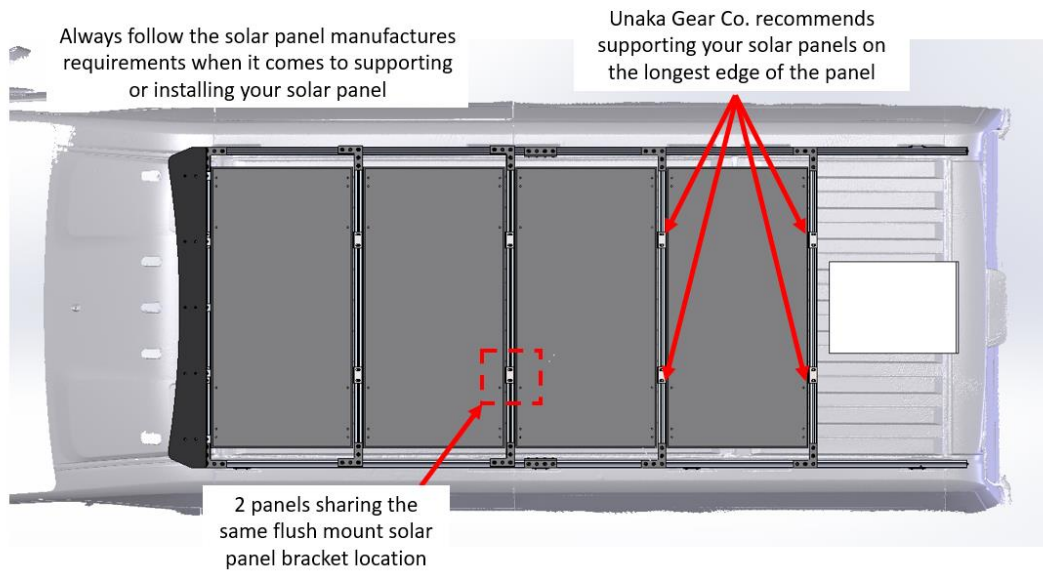
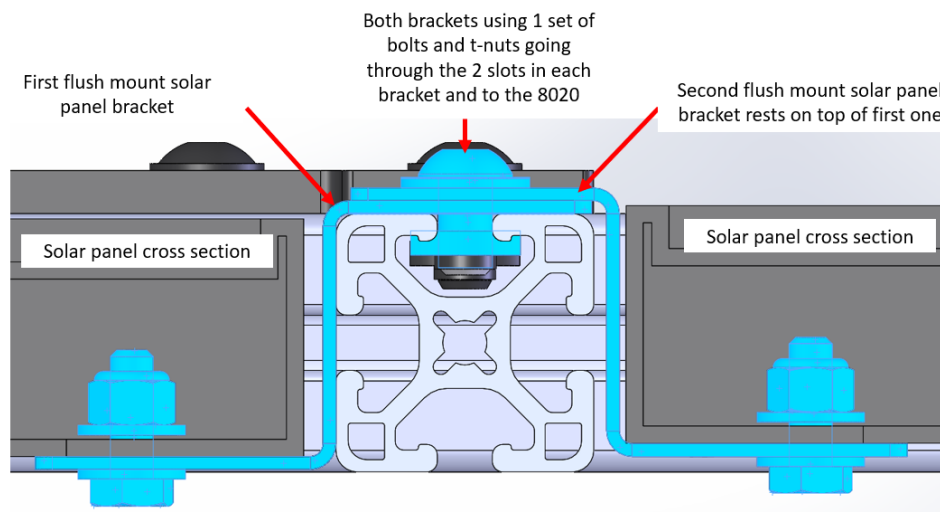

Figure 4: Flush mount brackets used for multiple solar panel installation.
Figure 5: Cut away view of overlapping flush mount solar panel brackets
- Each flush mount solar panel bracket requires 1 t-nuts to be installed in the 8020 mounting locations for each solar panel bracket. If 2 flush mount brackets are overlapping as described in Figure 4 and Figure 5 then those brackets in that location will share the same 2 t-nuts and bolts.
- If two or more solar panels are mounted next to each other as shown in Figure 4, the flush mount solar panel brackets can be overlapped as needed to utilize the same mounting holes on one solar panel to the next. Figure 5 shows a cut away of this installation.
- Figure 4 shows an example of multiple solar panels installed using the Unaka flush mount solar panel brackets.
Figure 4 shows an example of multiple solar panels installed using the Unaka flush mount solar panel brackets.
Figure 5 shows a cut away of two flush mount solar panel brackets being installed in the same position to utilize the same mounting hole in one solar panel to the next. In some cases, solar panels have multiple mounting hole locations in which case the flush mount solar panel brackets can be staggered so they don't have to overlap.